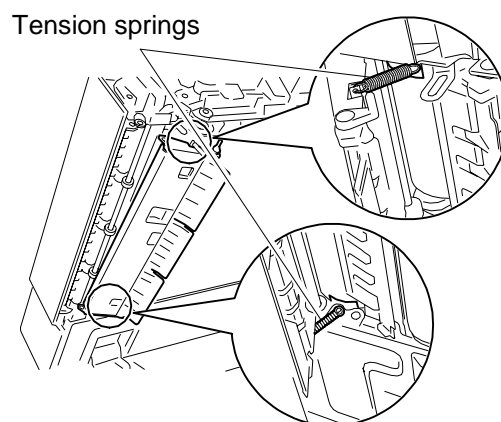

Fig. 16
- 16) Fit the 2 tension springs back into the gap in the guide. (Fig. 16)